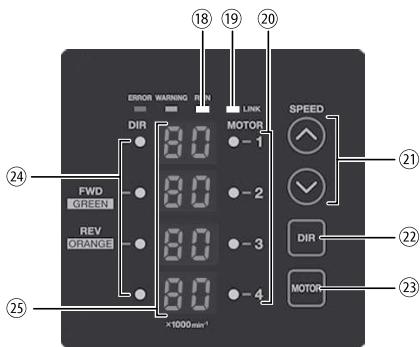

Fig. 22 SELECTOR Control Panel
- (1) Set Motor Selection (Set the Motor Selection Button (MOTOR) ⑳ of the Fig. 22 SELECTOR Control Panel.)
- (2) Set Motor Rotating Direction (Set the Rotation Direction Button (DIR) ㉒ of the Fig. 22 SELECTOR Control Panel.)
(Set the Motor Speed Adjustment Button (SPEED ⬆️ , ⬇️) ㉑ of the Fig. 22 SELECTOR Control Panel.)
- (5) Setting Motor Speed (Set the Motor Speed Adjustment Button (SPEED ⬆️ , ⬇️) ㉑ of the Fig. 22 SELECTOR Control Panel).
(5) Setting the Motor Speed
- Motor Speed Range is 1,000 - 80,000 min⁻¹ (rpm). Limit the motor speed depends on motor and spindle model. Setting parameter (P2), allows the Motor Speed to be adjusted in Auto Mode using the Motor Speed Adjustment Button (SPEED ▲, ▼) ② of the Fig .22.